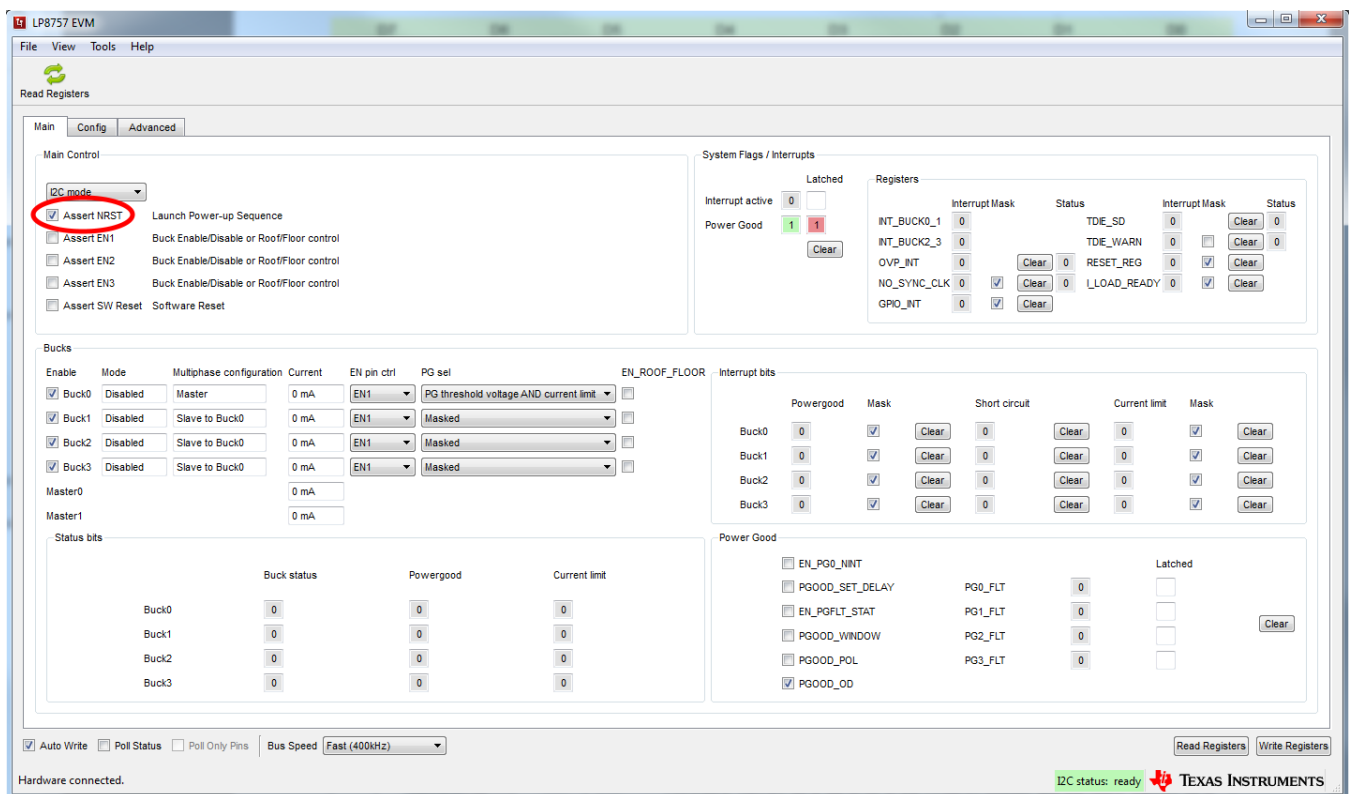

Figure 7. Assert nRST
1. On Evaluation software GUI, click on Assert NRST (see Figure 7).